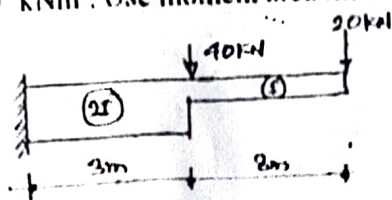

Fig.Q5(a)
- 5 a. Determine the slope and deflection at the free end of a cantilever beam loaded as shown in the Fig.Q5(a). Take  $EI = 4 \times 10^5 \text{ kNm}^2$ . Use moment area method.